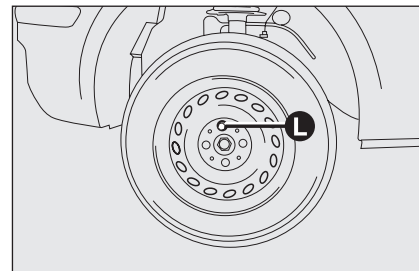

fig. 7
- remove the wheel cap (if any) after unscrewing the three relevant bolts then, unscrew the fourth bolt **L-fig. 7** and remove the wheel;